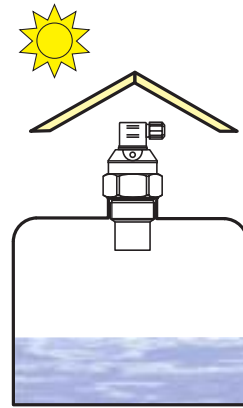

Fig. 8: Direct solar radiation shielding cover
- In case the installation at places with direct solar radiation is inevitable, it is necessary to mount a **shielding cover** above the level meter (Fig. 8).